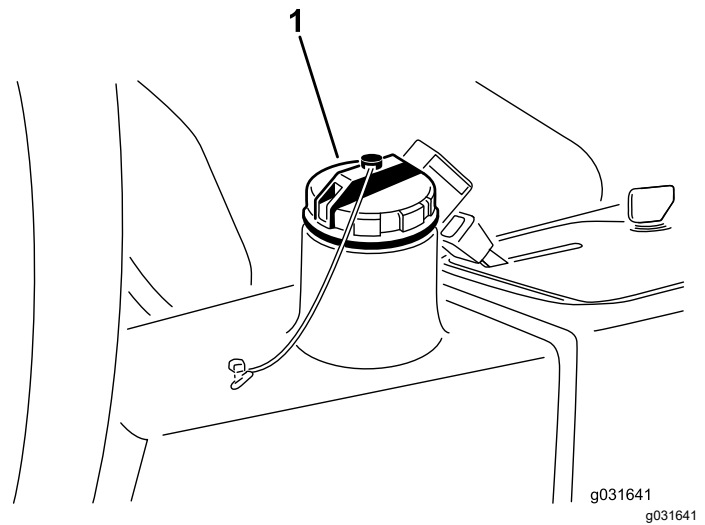

Figure 63
2. Clean the area around the filler neck and hydraulic-tank cap (Figure 63).
3. Remove the hydraulic-tank cap (Figure 63).